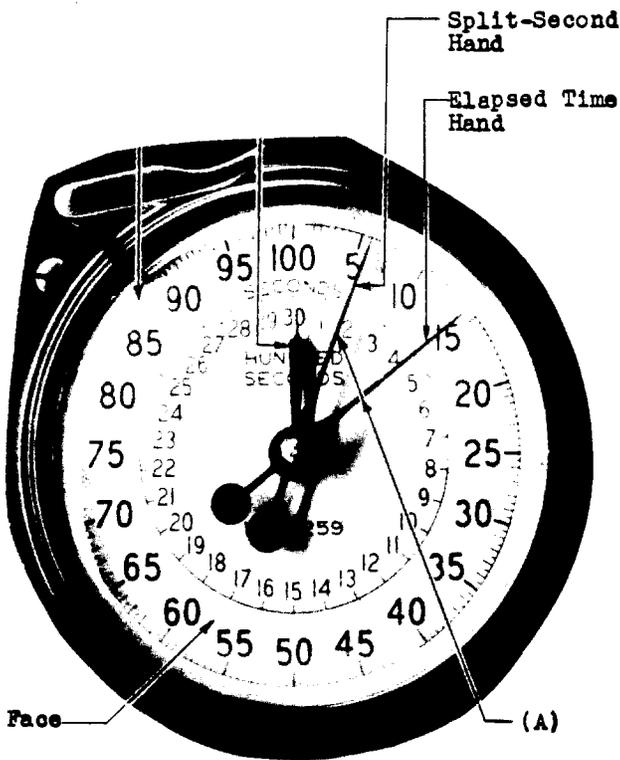

Fig. 6 - Position of Hands
- (b) Fig. 6 (A) - When the red handle switch of the KS-8355 switch is closed to the stop position, the split-second hand shall stop without interrupting the travel of the elapsed-time hand but when the red handle switch is again closed to the operating position, the split-second hand shall realign itself with the elapsed-time hand.
(f) Fig. 6 (A) - When the push button of the switch is depressed while the control knob is in the operated position, the split-second hand shall stop without interrupting the travel of the elapsed-time hand. When the push button is released, the split-second hand shall realign itself with the elapsed-time hand.